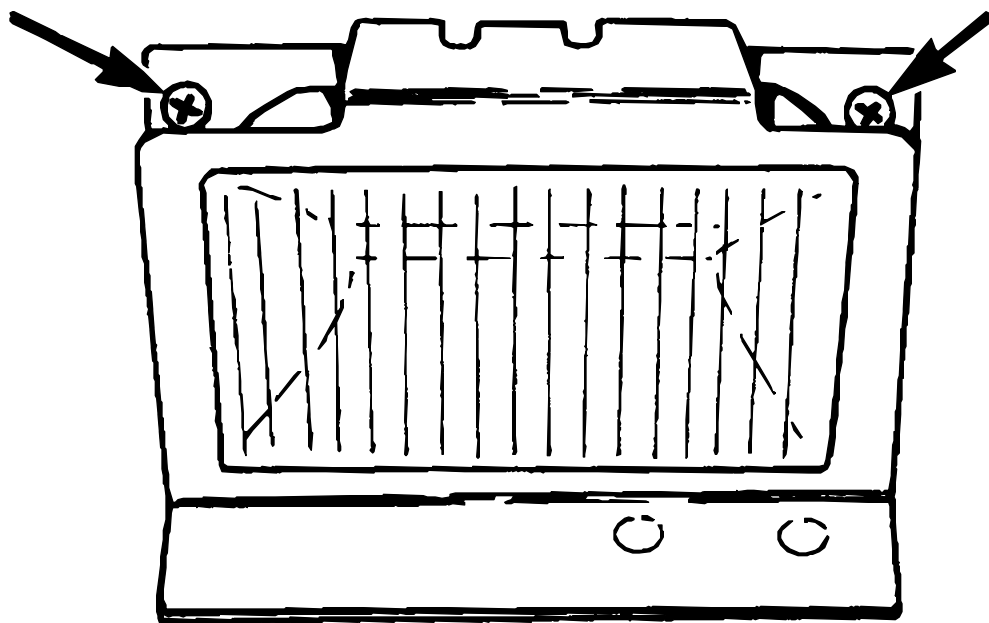

Figure 4-6 Loosening Face Strobe Screws
- 2.2 Loosen two screws at top of bracket. (Fig. 4-6)